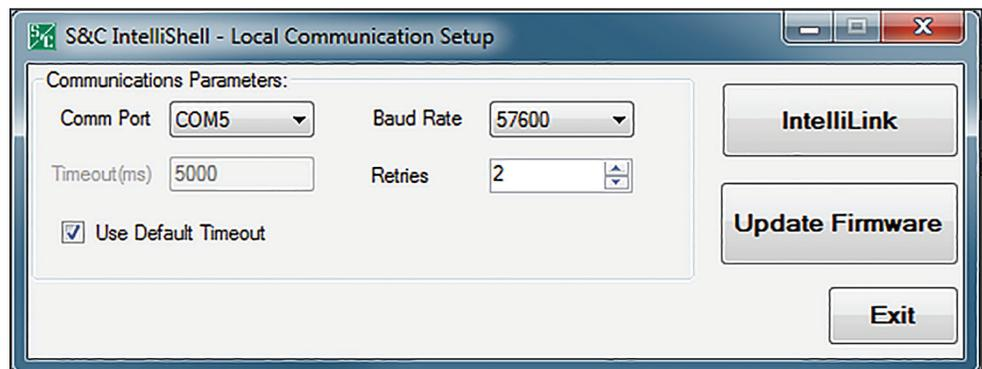

Figure 13. The IntelliShell connection program—Local Communication Setup dialog box.
STEP 6. Select the **Comm Port** option used to connect to the control, and select the **Update Firmware** button. See Figure 13.